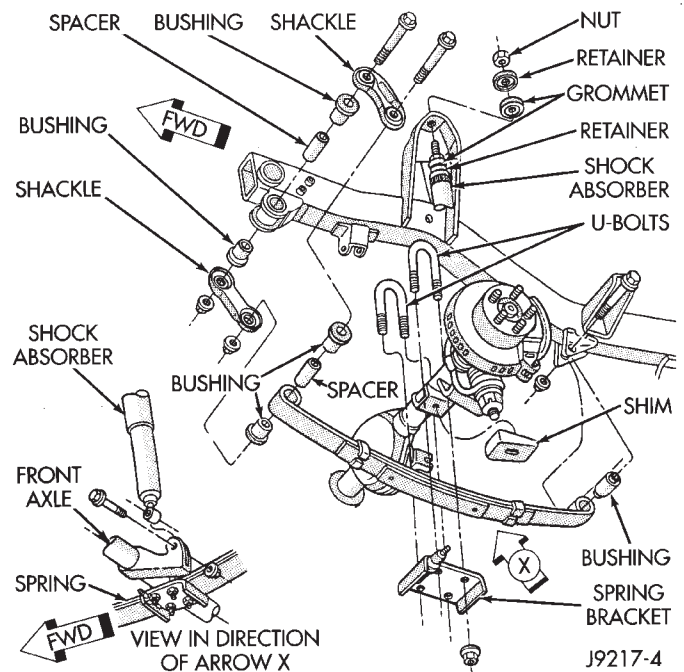

Fig. 3 Spring & Shock Absorber
- (1) Remove the nut, retainer and grommet from the upper stud on the frame bracket (Fig. 3).
- (2) Raise and support the vehicle.
- (3) Remove the nut, washers and bolt from the shock absorber lower eye (Fig.3).
- (1) Raise the vehicle.
(2) Support the vehicle with jack stands placed under the frame.
(3) Position a hydraulic jack under the axle. Raise the axle to relieve the axle weight from the springs.
(4) Remove the stabilizer bar links attaching nut.
(5) Remove the nuts, the U-bolts and spring bracket from the axle.
(6) Remove the nut and bolt that attaches the spring front eye to the shackle (Fig. 3).
(7) Remove the nut and bolt from the spring rear eye.
(8) Remove the spring from the vehicle.
(1) Position the spring front eye in the shackle. Loosely install the attaching bolt and nut. Do not tighten at this time.
(2) Position the rear eye in the hanger bracket. Loosely install the attaching bolt and nut (Fig. 3). Do not tighten at this time.
(3) Position the axle. Install the spring bracket, U-bolts and nuts (Fig. 3). Tighten the U-bolt nuts to 122 N·m (90 ft. lbs.) torque.
(4) Attach the stabilizer bar links.
(5) Remove the hydraulic jack.
(6) Remove the support stands and lower the vehicle.
(7) Tighten the front shackle plate nut (Fig. 3) to 135 N·m (100 ft. lbs.) torque.
(8) Tighten the rear eye bracket nut to 142 N·m (105 ft. lbs.) torque.